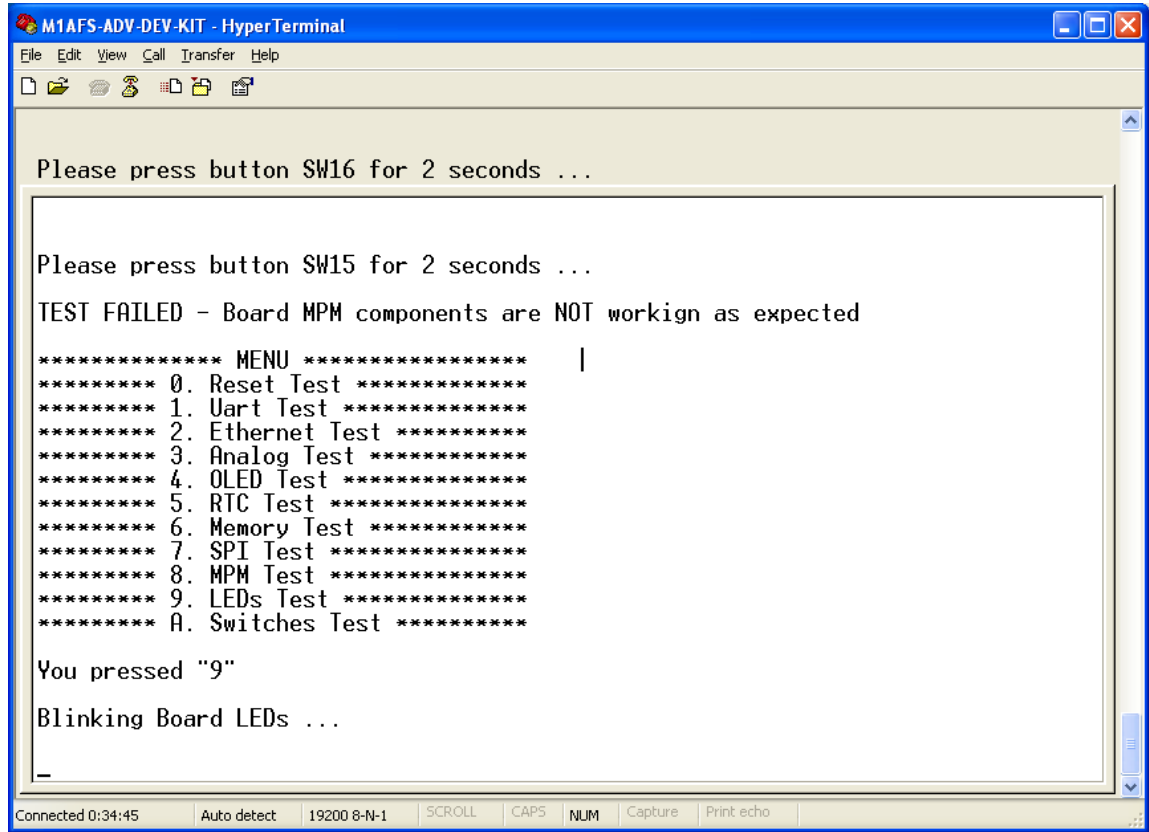

Figure C-33 · LEDs Test
25. Enter 9 into the terminal to begin the LEDs Test. The screen shown in Figure C-33 will appear.